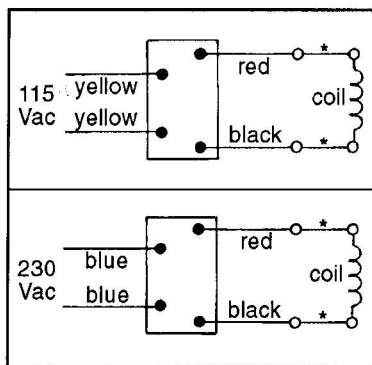

Figure 1
3. Connect Tor-ac module as shown in Figure 1.